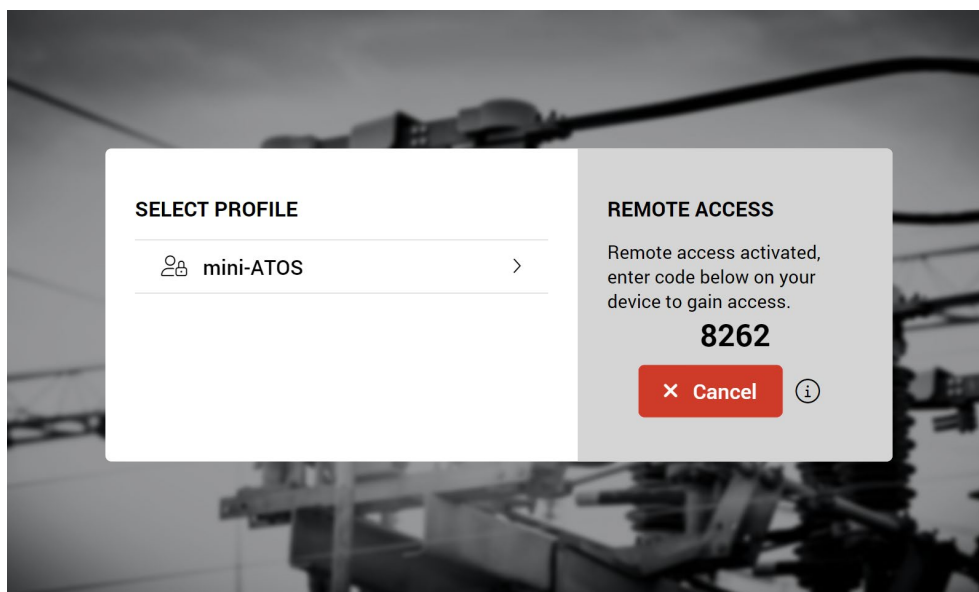

Figure 118: Remote access activated with an auto-generated key on the mini-ATOS display
- 4- Activate remote access on the select profile page. If you didn't input the access key manually in the settings, you will see then the auto-generated access key (Figure 118)